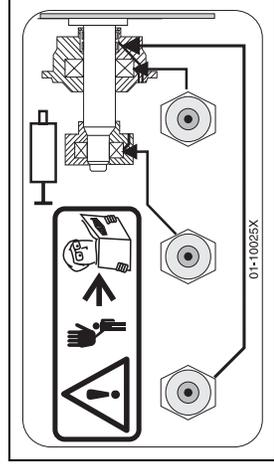

FIGURE 3 (MSSM0242AE)
1. Locate the seal and bearing grease fittings (FIGURE 3).